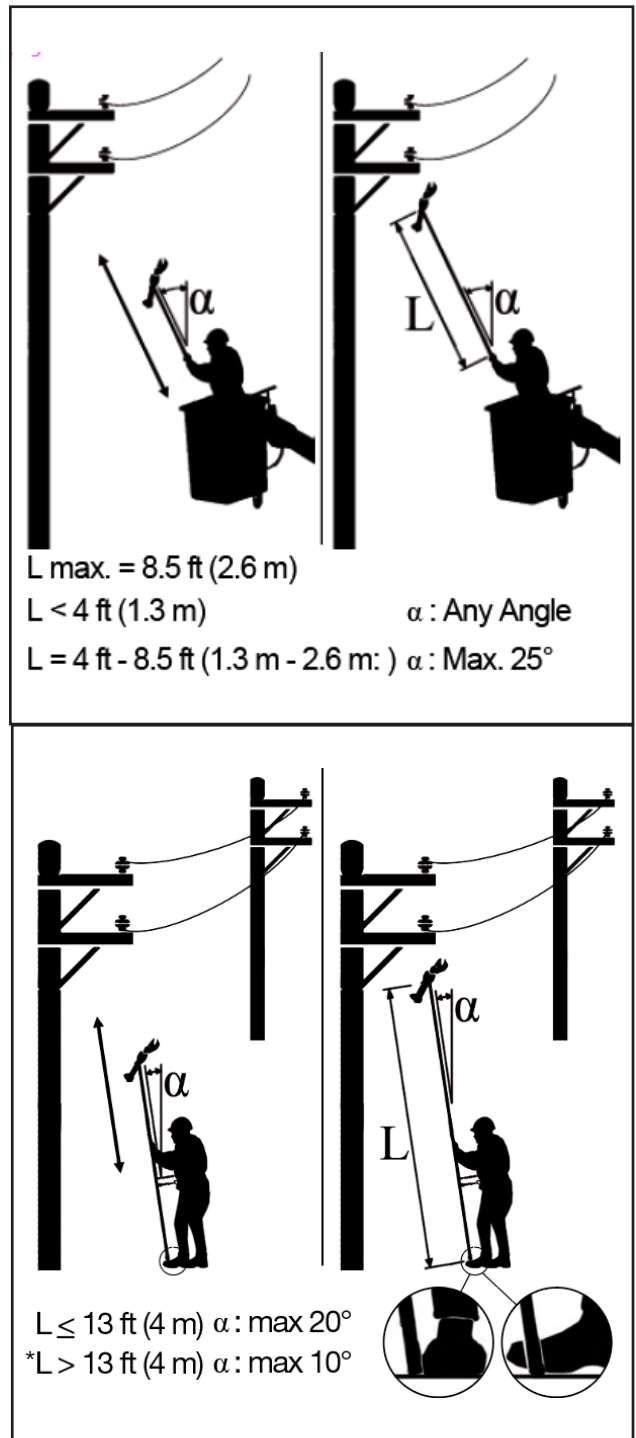

Figure 9
- Hold the hot stick with both hands and brace the end of the hot stick with your foot or the basket wall to reduce the risk of twisting or losing control of the tool. Extend the hot stick and keep the hot stick angled slightly in front of you (Fig. 9).